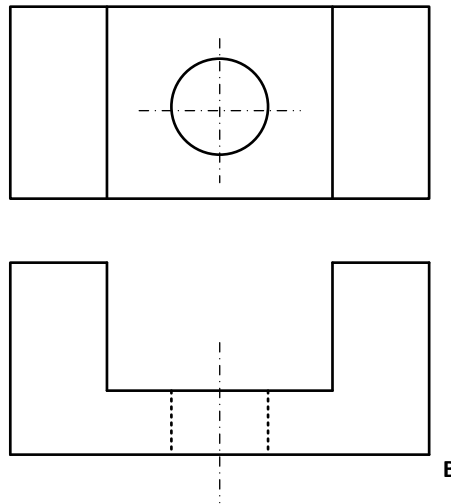

Figure 1
7. Two views of a block are given in figure 1. Make an isometric sketch of the block taking corner “B” as the lowest point. (5 marks)